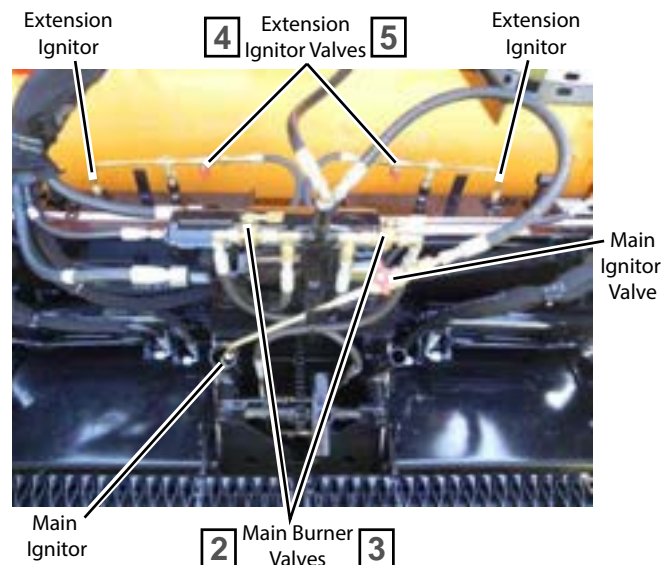

Figure 4-36. Screed Burner Valves
3. Remove the main ignitor wand from its cradle and turn its valve counterclockwise to the OPEN position, then light the ignitor end using a torch striker. (Figure 4-36)
4. Holding the lit ignitor wand in one hand beside the burner you are going to light, turn on the main burner valve and light the that burner just below the valve, then repeat with the other side. (Figure 4-36)